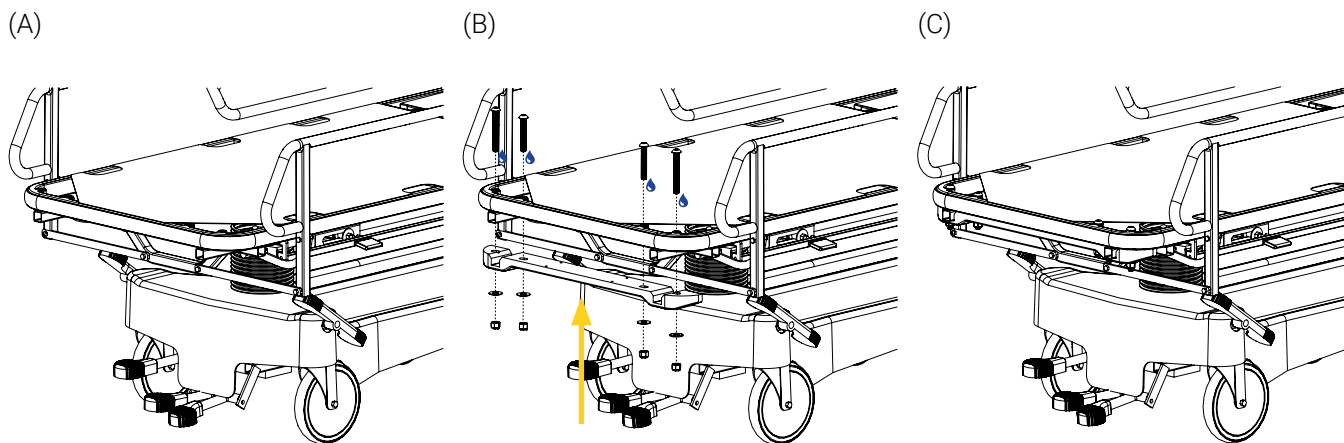

Figure 62: Installing the support structure
2. Place the support structure under the stretcher frame, then partially tighten two (2) ½ in. –13 thread size, 4 in. L SS button head screws and two (2) ½ in. –13 thread size, 3½ in. L SS button head screws coated in medium strength thread-lock adhesive, four ½ in. ID X 1¼ in. OD washers and four (4) ½ in. ID X 1¼ in. OD lock nuts by hand in a cross-pattern before tightening using a ½ in. wrench and a ⅝ in. hex key (Figure 62).